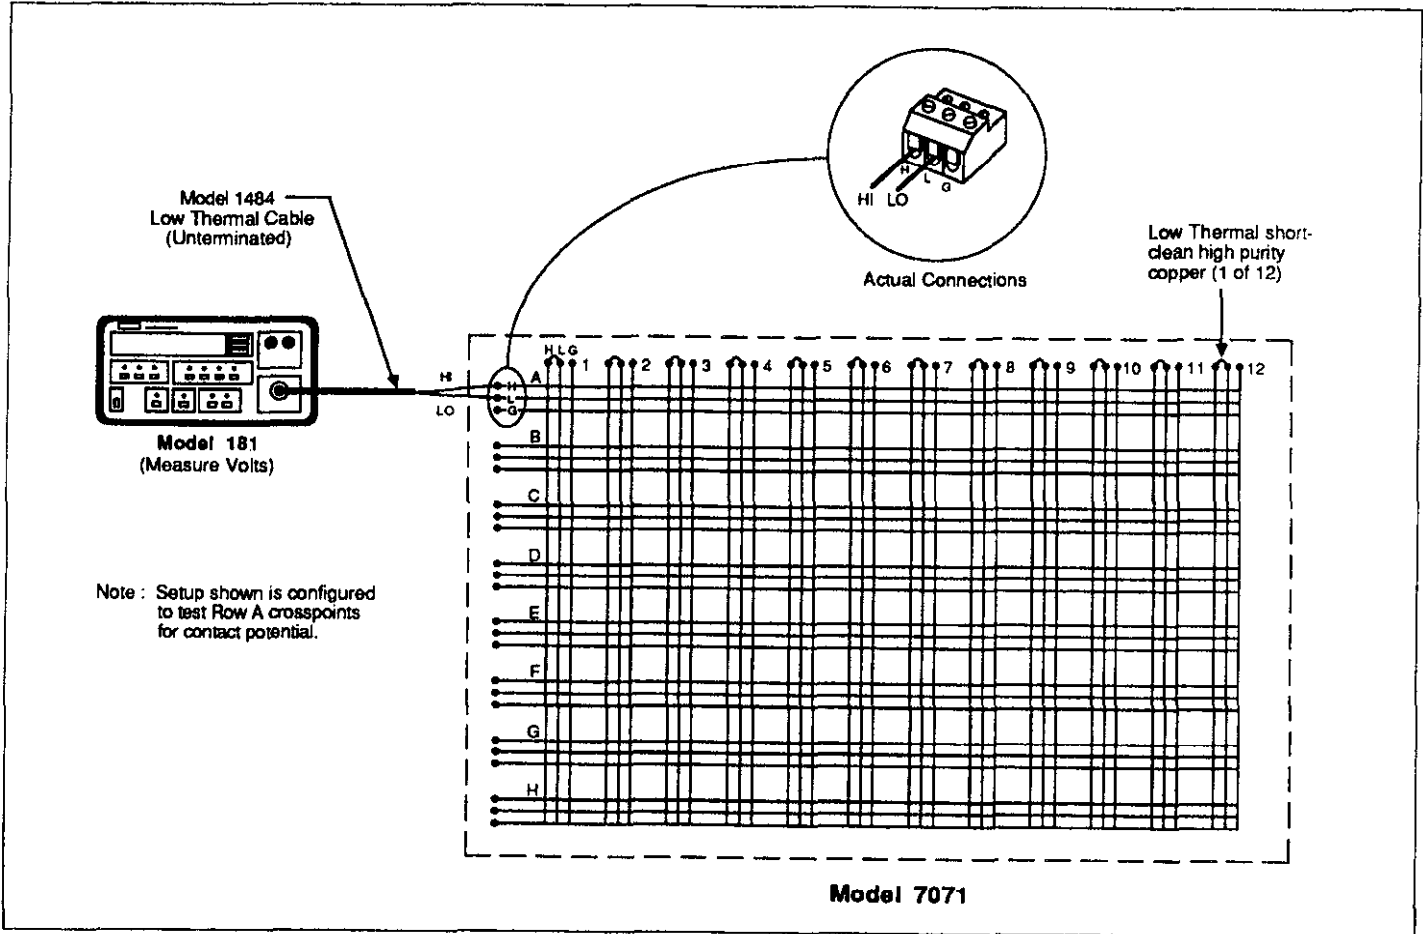

Figure 4-5. Contact Potential Testing
3. Connect the Model 181 to a quick-disconnect terminal block as shown in the illustration caption of Figure 4-5. Do not connect the terminal block to the matrix card at this time.